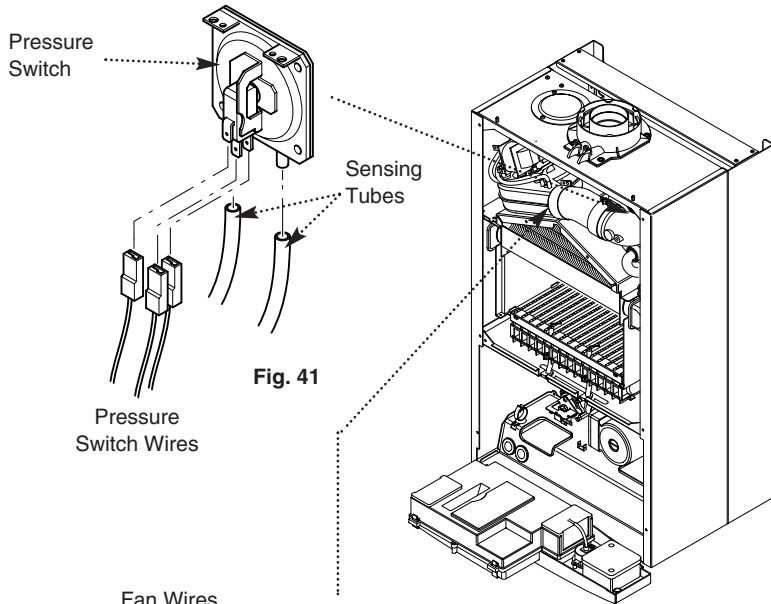

Fig. 41
12.2 Pressure Switch (Fig. 41)